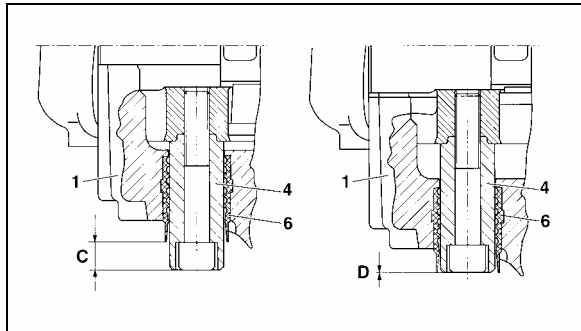

FIGURE 23: BRAKE PAD CHECK
Brake pads have to be checked on a regular basis depending on the vehicle operation. The remaining thickness of the pads should never be less than 3/32 in (2 mm). To check pad condition without removing the wheel, verify the position of guide bushing (6) relatively to guide sleeve (4) (see Fig. 23). When guide sleeve is in alignment with guide bushing, brake pad thickness has to be checked more precisely with the wheel removed. When replacing brake pads, all four pads on an axle have to be changed at the same time. There is no inner or outer pad, since all pads are the same. Once removed,